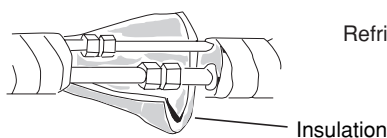
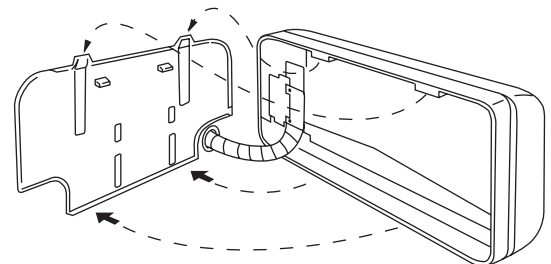

Fig. 37a
Fig. 36
- (2) Push the wiring, refrigerant tubing, and drain hose through the hole in the wall. Adjust the indoor unit so it is securely seated on the rear panel. (Fig. 36)
- (3) Carefully bend the tubing (if necessary) to run along the wall in the direction of the outdoor unit and then tape as far as the fittings. (See Caution on page 15 in the outdoor unit installation manual.) The drain hose should come straight down the wall to a point where water runoff won't stain the wall.
- (4) Connect the refrigerant tubing to the outdoor unit. (After performing a leak test on the connecting part, insulate it with the tubing insulation. (Fig. 37a)) Also, refer to Section 3-6. Tubing connections in the outdoor unit installation manual.